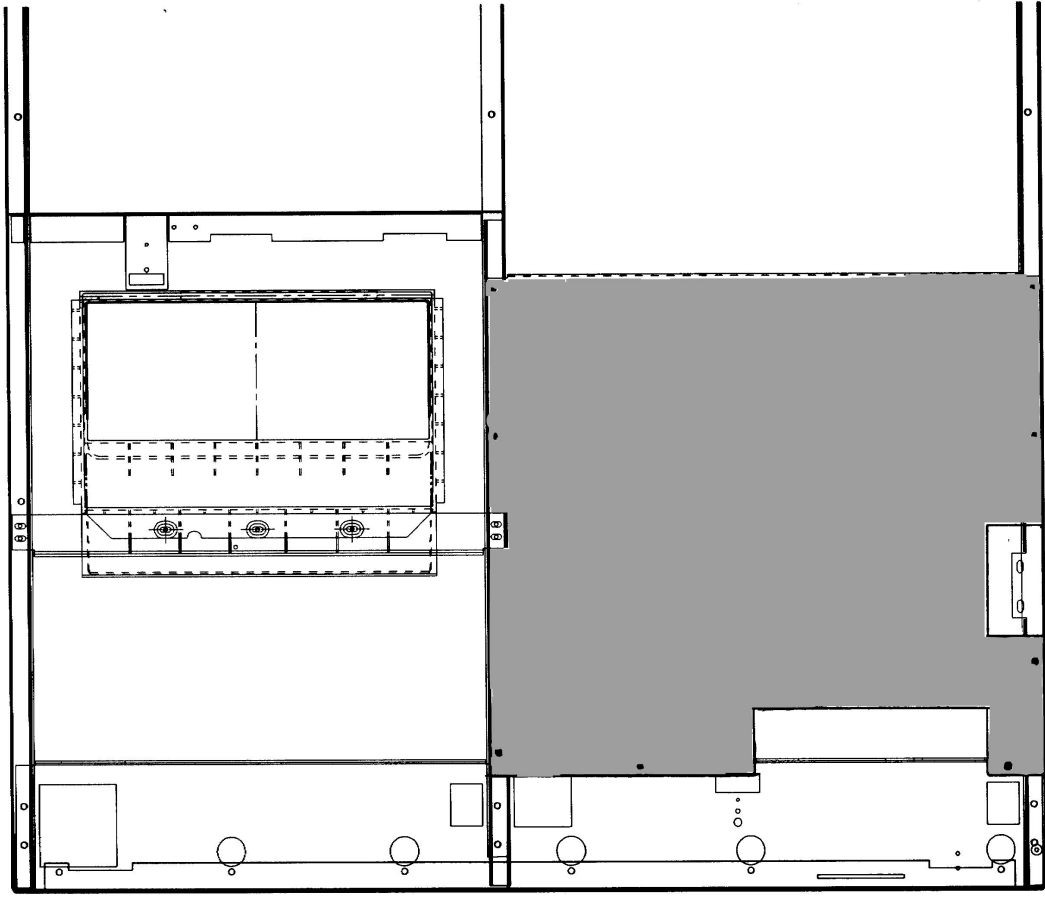

Figure 2
8. Install the Stiffener (624,020,03x.x3) between the bulkheads (See Figure 2, page 2), and under the cash box shelf and delivery port bracket.